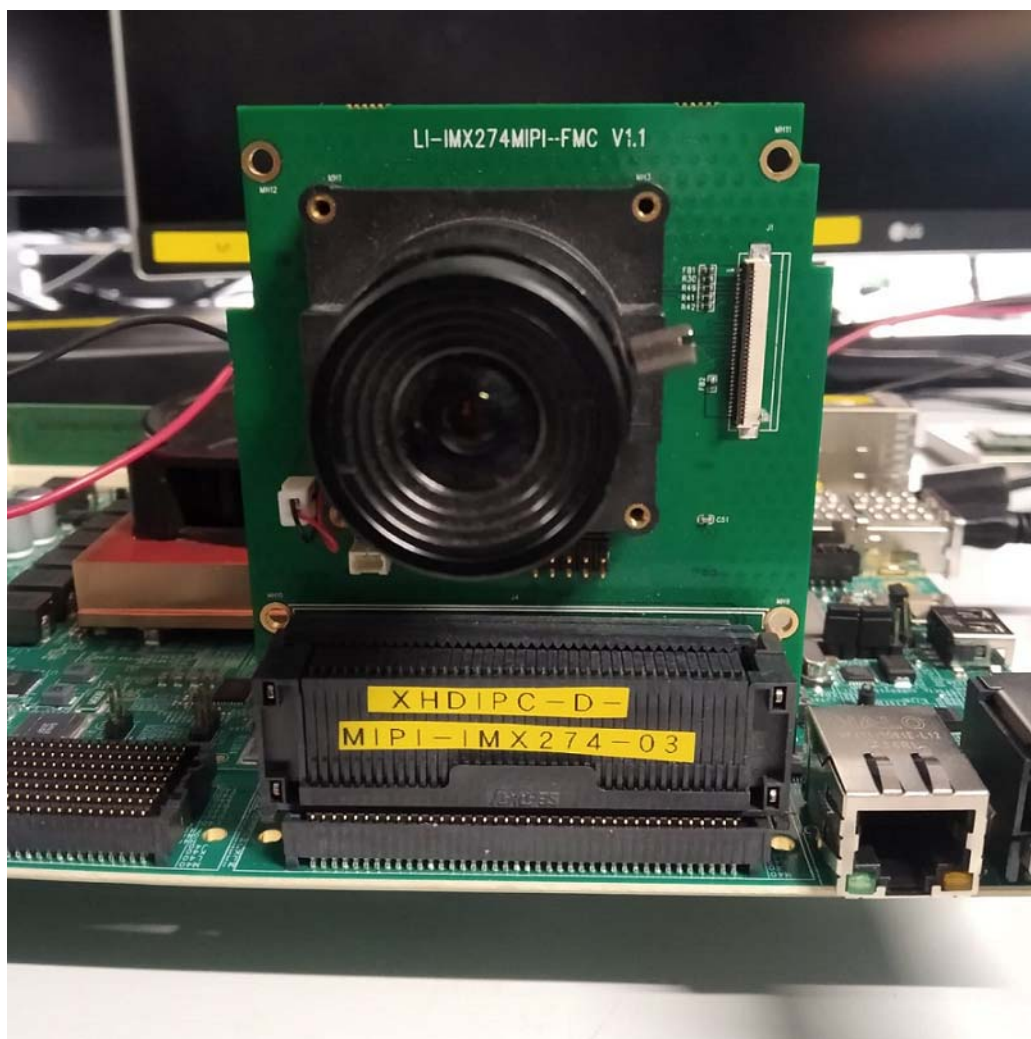

Figure 5-9: : LI-IMX274MIPI-FMC Camera Sensor Module
1. Set up the hardware connections as shown in Figure 5-9.